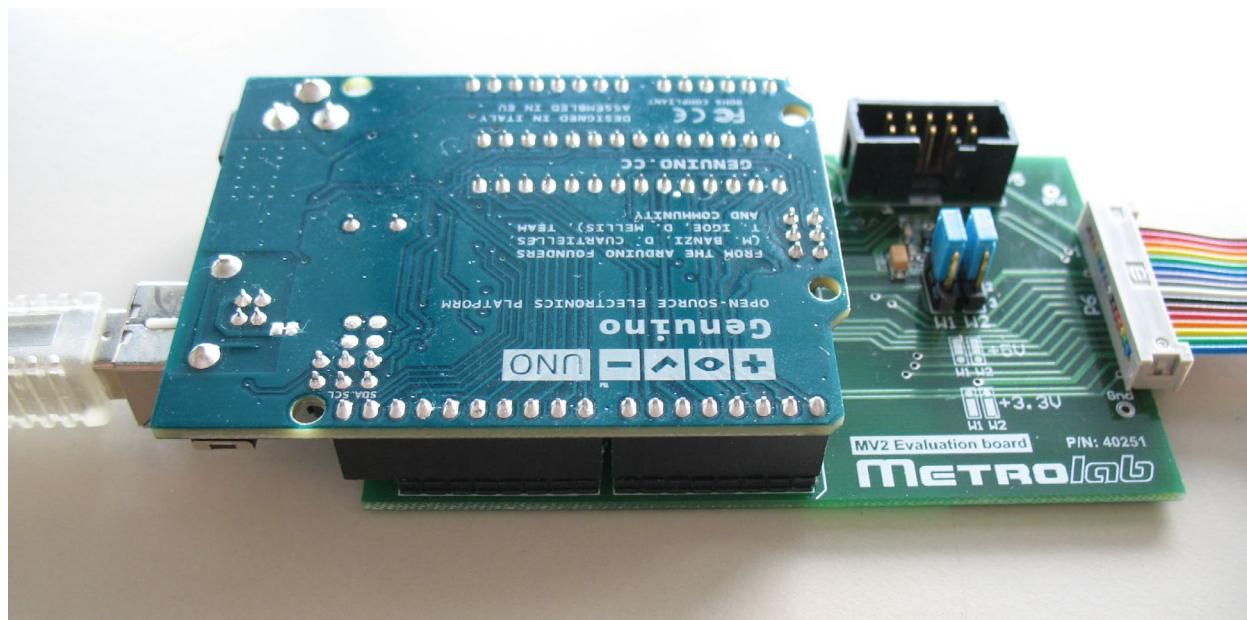

Figure 20. Arduino/Genuino UNO connected to MagVector MV2 test board.
As shown in Figure 20, the Arduino UNO’s connectors mate exactly with those on the test board: the Arduino UNO Digital headers (IOL and IOH) connect to P1 and P2, respectively, on the test board; the Arduino UNO Analog (AD) and Power (POWER) headers connect to P3 and P4, respectively, on the test board. Note that the last two pins of the Digital header (IOH-9 – SDA and IOH-10 – SCL) are not connected to the test board.